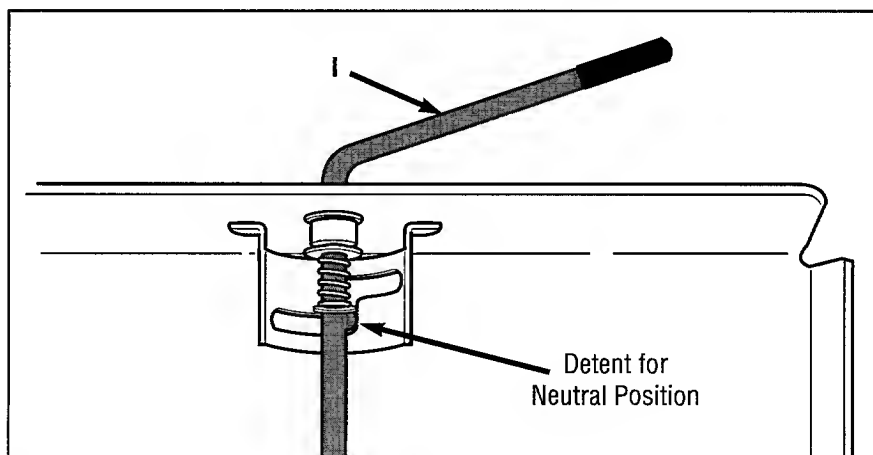

Figure 5-14: Gear Select Lever in neutral (N) position.
2. Rotate shift rod (I, Figures 5-14 and 5-15) clockwise until it stops in the neutral (N) position (from forward gear positions).
6. When shift arm (X) is in neutral position, rotate shift link (P) until hooked end fits back into hole in bottom end of shift rod (I).
NOTE: Shift rod (I) must be held in the neutral position (see Figure 5-14) while shift link (P) is adjusted.
7. Secure shift link (P) into shift rod (I) with cotter pin removed earlier.
8. Re-check neutral by pushing unit back and forth and shifting lever (I) from reverse to neutral. A small fine-tune adjustment may be required.